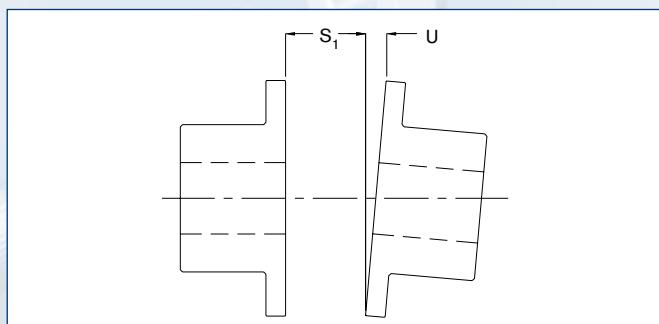

Fig. 5
- Dimension (U) as shown in Figure 5, page 61 should be measured in at least three points, equally spaced, to determine maximum value for (U). This must not exceed the max. allowable dimension stated in Table 6, page 62.
- Adjust or shim equipment to bring indicator reading within max. allowable angular misalignment (U).